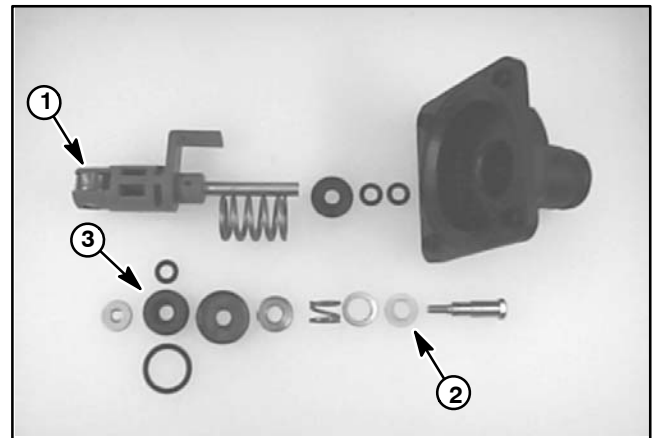

Figure 31
- A. Remove the fork (item 29) that secures the motor and spindle sections to the manifold assembly.
3. To allow easier separation of the motor and spindle sections, make sure that boom valve motor is in the closed position (green indicator is recessed into the spindle housing). Remove four phillips head screws (item 15) and separate spindle section from motor section.
5. Inspect and disassemble spindle section (Fig. 31).